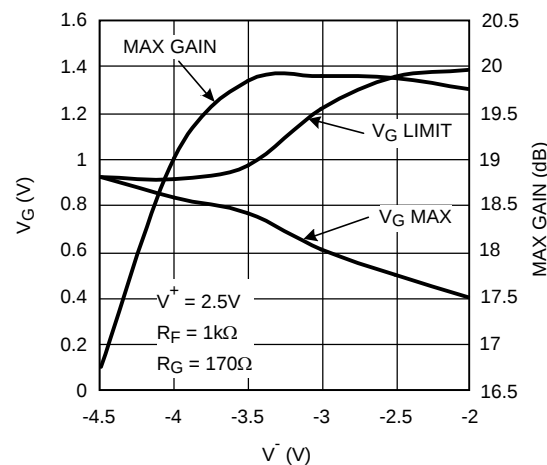
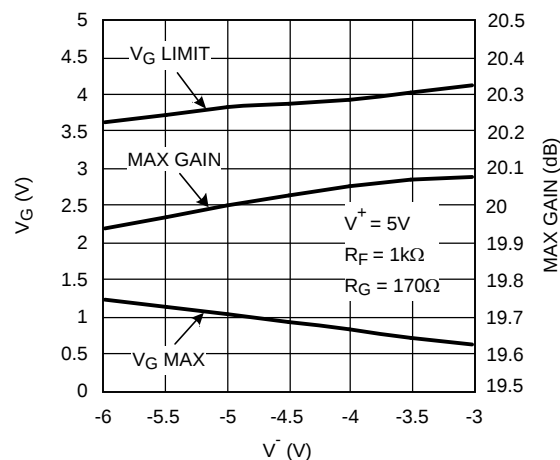

Figure 67.  $V_{G\_MAX}$ ,  $V_{G\_LIMIT}$ , & Max-gain vs.  $V^-$  ( $V^+ = 2.5V$ )
Figure 68.  $V_{G\_MAX}$ ,  $V_{G\_LIMIT}$ , & Max-gain vs.  $V^-$  ( $V^+ = 5V$ )
- a)  $V_G$  range constricts. Referring to Figure 67, note that  $V_{G\_MAX}$  ( $V_G$  voltage required to get maximum gain) is 0.5V ( $V_S = \pm 2.5V$ ) compared to 1.0V for  $V_S = \pm 5V$ . At the same time, gain cut-off ( $V_{G\_MIN}$ ) would shift to -0.5V from -1V with  $V_S = \pm 5V$ .
- b)  $V_{G\_LIMIT}$  (maximum permissible voltage on  $V_G$ ) is reduced. This is due to limitations within the device arising from transistor headroom. Beyond this limit, device performance will be affected (non-destructive). Referring to Figure 67, note that with  $V^+ = 2.5V$ , and  $V^- = -4V$ ,  $V_{G\_LIMIT}$  is approaching  $V_{G\_MAX}$  and already "Max gain" is reduced by 1dB. This means that operating under these conditions has reduced the maximum permissible voltage on  $V_G$  to a level below what is needed to get Max gain. If supply voltages are asymmetrical, reference Figure 67 and Figure 68 plots to make sure the region of operation is not overly restricted by the "pinching" of  $V_{G\_LIMIT}$ , and  $V_{G\_MAX}$  curves.
- c) "Max\_gain" reduces. There is an intrinsic reduction in max gain when the total supply voltage is reduced (see Figure 43). In addition, there is the more drastic mechanism described in "b" above and shown in Figure 67.
Similar plots for  $V^+ = 5V$  operation are shown in Figure 68 for comparison and reference.